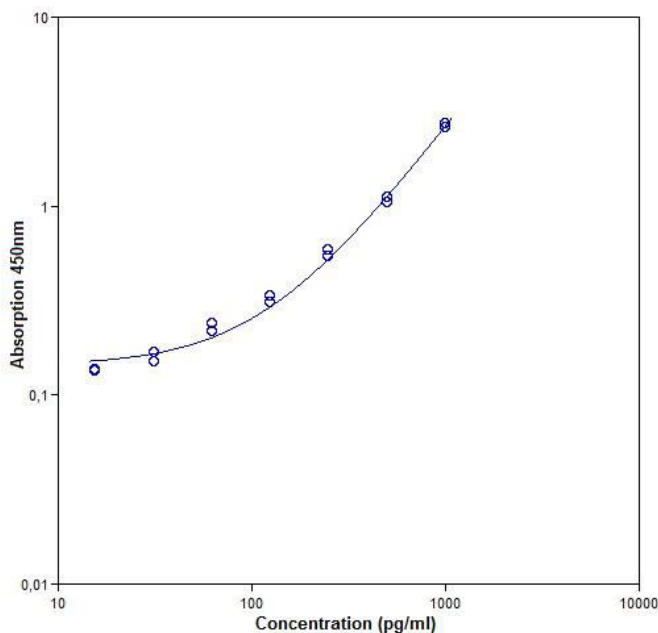

Fig. 8 Representative standard curve for human HSP27 ELISA. Human HSP27 was diluted in serial 2-fold steps in Sample Diluent.
- A representative standard curve is shown in Figure 8.